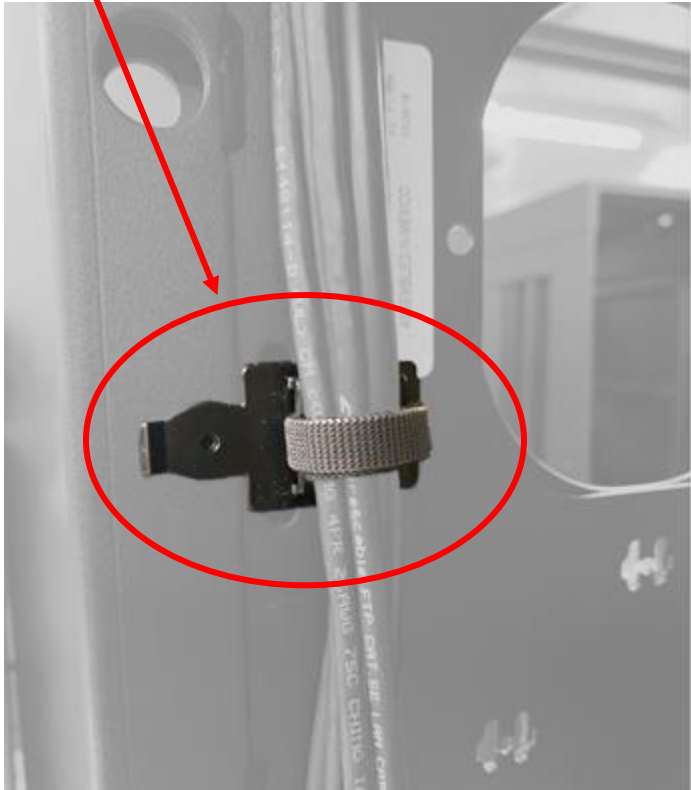

Figure 14: Frame Edge Clip
- Frame Edge Clip for Ethernet Cables (reference Figure 14)